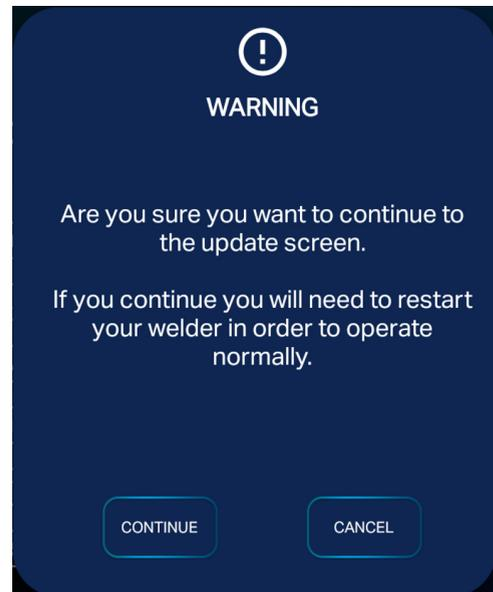

Figure 31.1. Warning screen while updating via USB.
- Press the 'Continue' button on the pop-up (Figure 31.1).